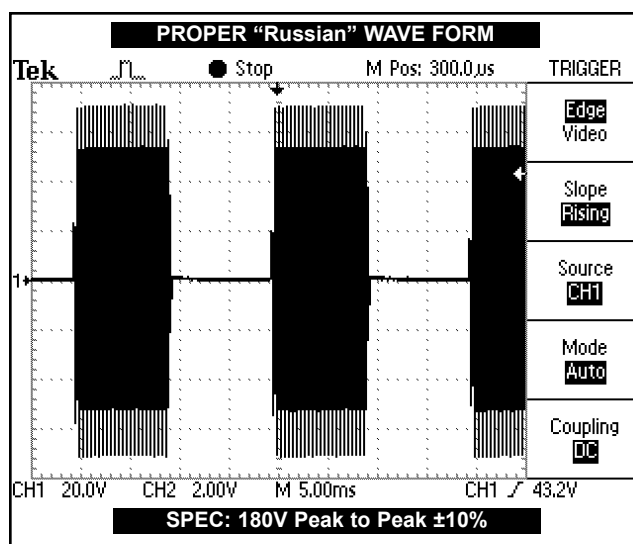

FIGURE 5.10
12. Compare wave form on scope to Figure 5.10.
1. Wave is the same between scope and Figure 5.10, amplitude reached 100 and patient switch message displayed when switch pressed.